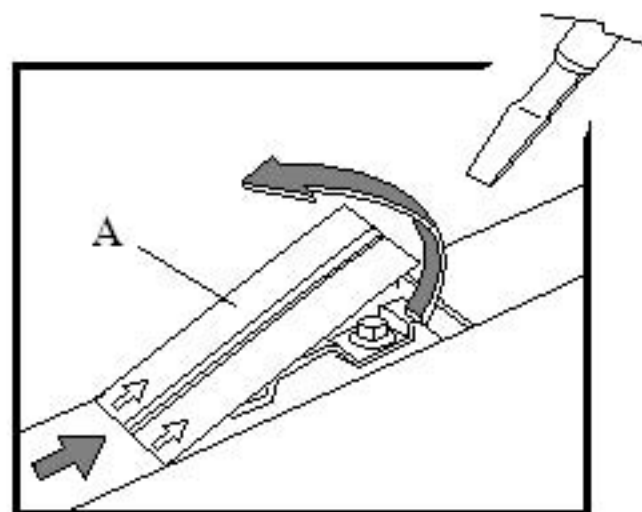

Fig. 1
- 2- Refer to page 4 **Fig. 1** push on access cover plate "A" in the direction of the arrows while lifting the access cover plate with a small screwdriver. Remove all 6 cover plates in the same manner.